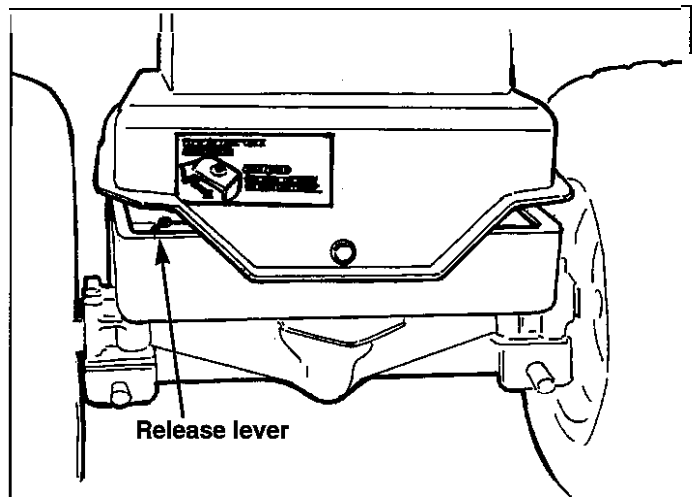

Figure 9. Release Lever • Hydro Models
2. See figure 9. The release lever is located under the rear tractor frame, above the transmission. Release lever must be in the rearward position to push the tractor by hand.